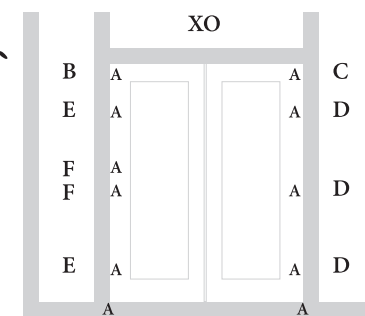

Figure 6 (left): Install the shims in the correct locations and in the correct sequence.
Caution: Do not open door panel greater than 30 degrees until 2 1/2" screws have been installed. (Points B, C, D, E, and F in Figure 6).
- + Stand on the inside of the door and center the door in the opening. Shim tightly at the bottom corners of the door unit (Points A in Figure 6)
This will keep the door centered and the frame tight against the sill. Shim the top of the door on the latch side (Point B in Figure 6). Install shims until there is a consistent 1/8" gap between the top of the door slab and the frame header.
Shim the hinge-side of the frame (Point C in Figure 6). This will hold the door tight in its position relative to the frame. The door should operate freely with nothing but shims holding it in place.